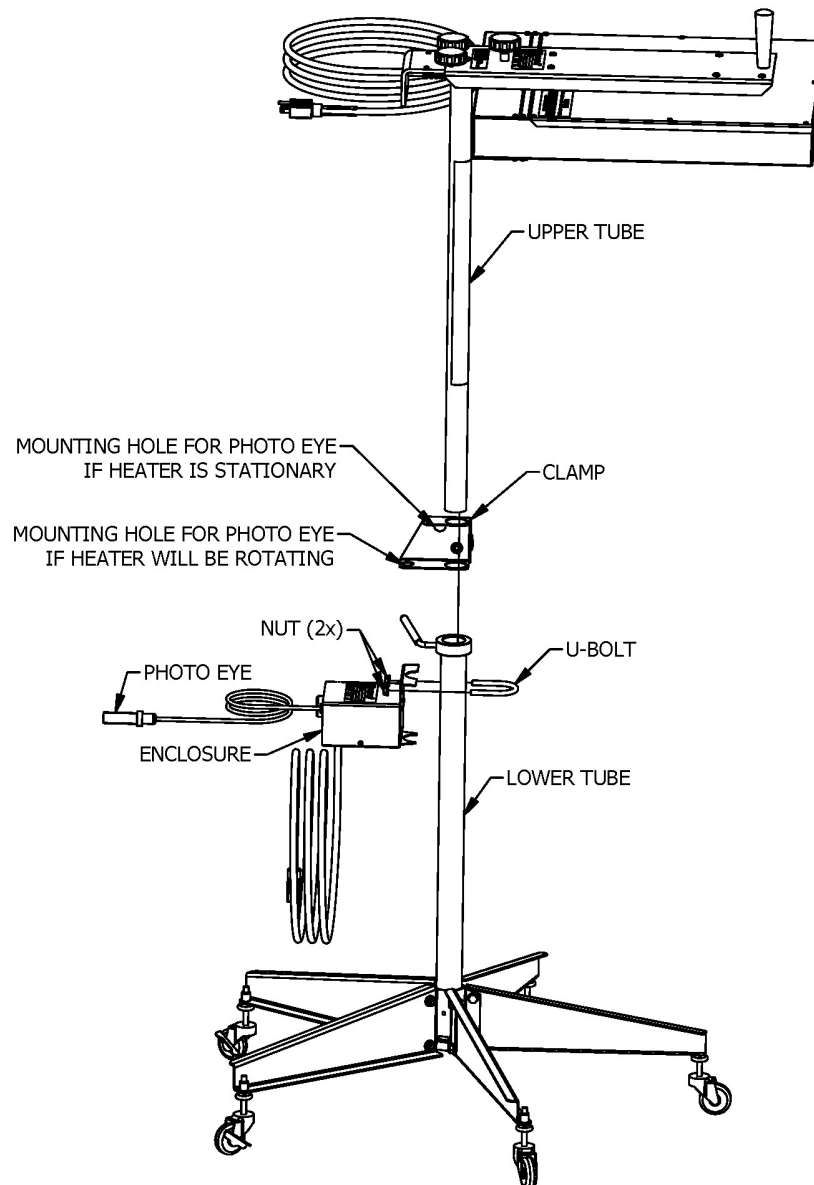

FIGURE 1
2. Insert **UPPER TUBE** through the **CLAMP** and **SHAFT COLLAR** and back into **LOWER TUBE** of the stand, securing the **SHAFT COLLAR** at the desired Heater height. (See FIGURE 1).